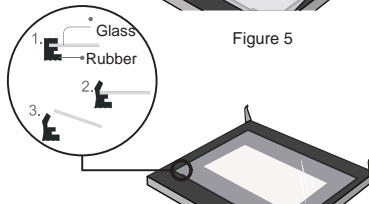

Figure 6
6.) After pulling out the inner glass, please take out the middle layer glass as shown in **Figure 6**.